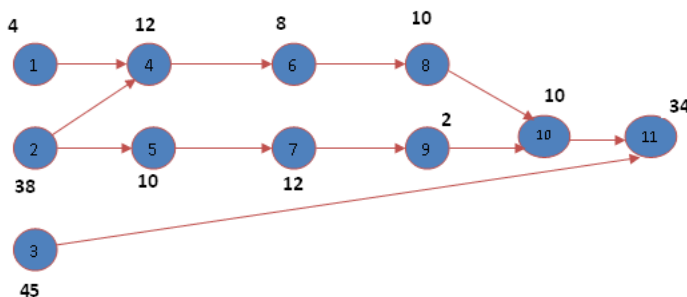

Figure1: Precedence diagram
6. Assembly of a job should be done as per the information given in Figure 1 and the cycle time is 45 seconds. Calculate number of workstations and balance delay using RPW method.